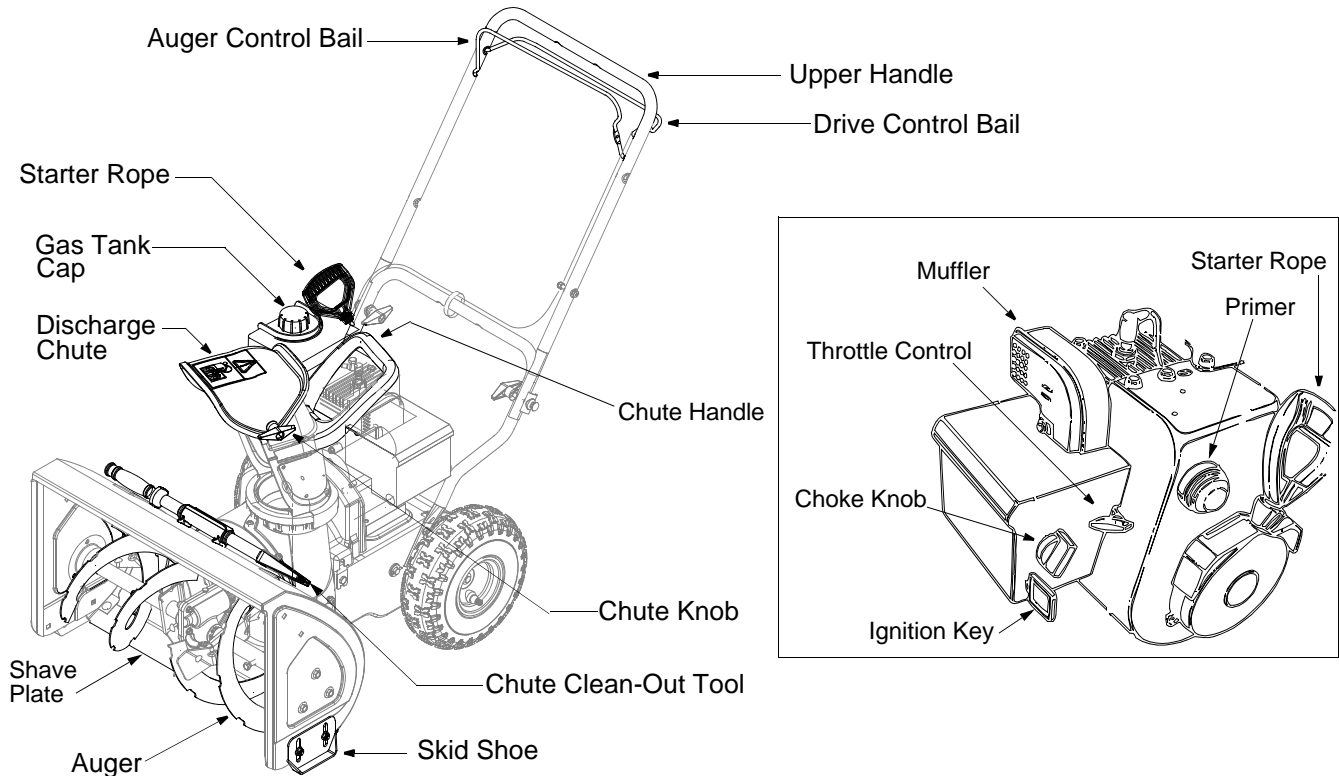

Figure 5
- Compare Figure 5 with your equipment and follow description of controls, given below, to get familiar with their operation.
For location of all the engine controls referred to in this section, see Figure 5.